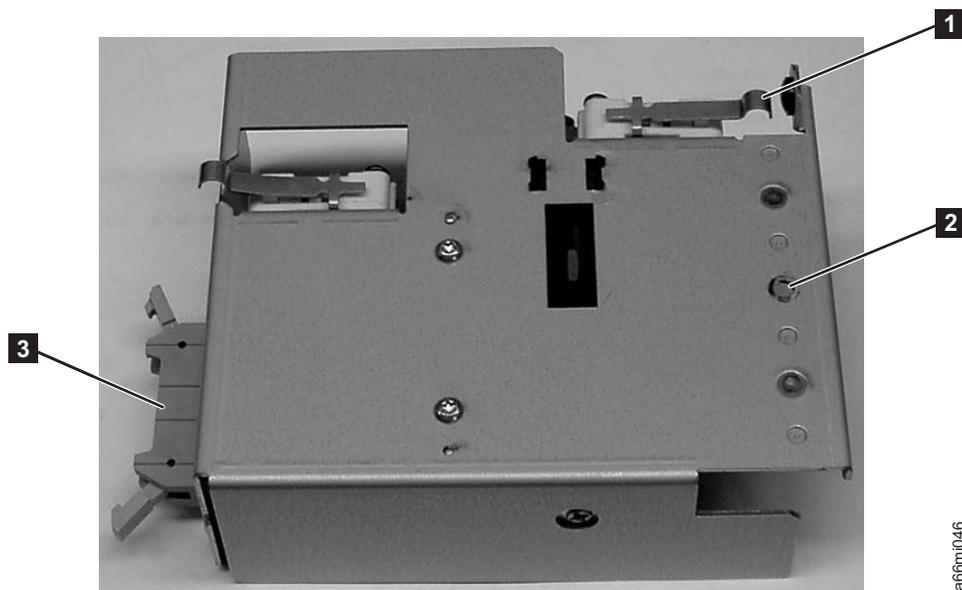

Figure 8-22. I/O Station Lock Assembly (top view)
4. Remove the mounting screw (**2** in Figure 8-22), and set it aside.
5. Disconnect the I/O Station cable ( **3** in Figure 8-22 on page 8-25) from the lock assembly.
- c. Ensure the I/O Station switch actuator lever ( **1** in Figure 8-22 on page 8-25) is not stuck under the enclosure sheet metal and operates without binding on the enclosure.